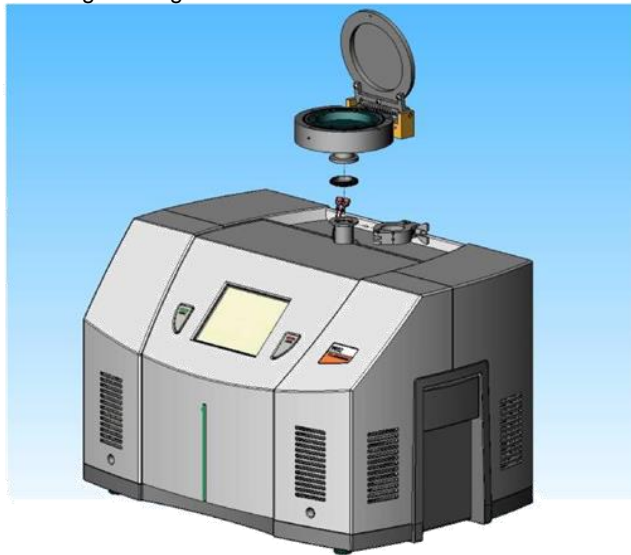

Figure 10: Flapper Box Assembly, NW25 Installation
- P/N VSFLDFBNW25: Utilizing the NW-25 Centering Ring and Quick Clamp (“Figure 10: Flapper Box Assembly, NW25 Installation”).